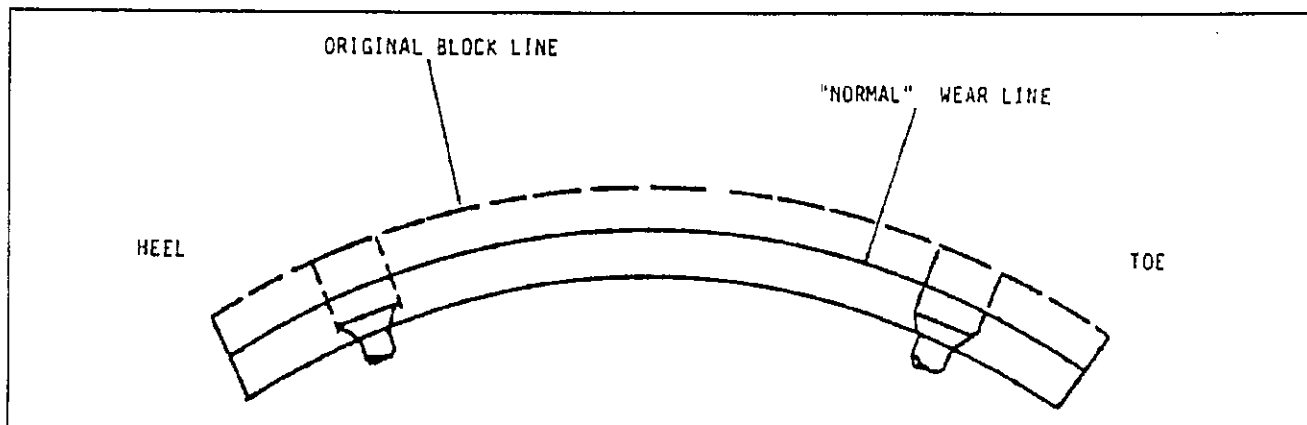

Figure 4-4 Brake Lining Wear
a. Examine the brake linings visually to locate the lining showing the greatest amount of wear. The wheel and drum should be removed and the linings replaced if the thinnest portion of the lining is less than 1/32 in. (.8 mm) above the rivets, shows irregular wear, or is contaminated with oil or grease. Do not allow the linings to wear thin enough that the lining rivet contacts the drum. (see Figure 4-4).